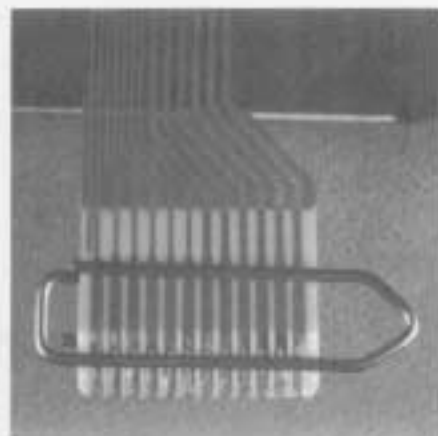

fig.1
2. Connect paperclip to CD drive flexfoil to short-circuit flexfoil (fig.1)